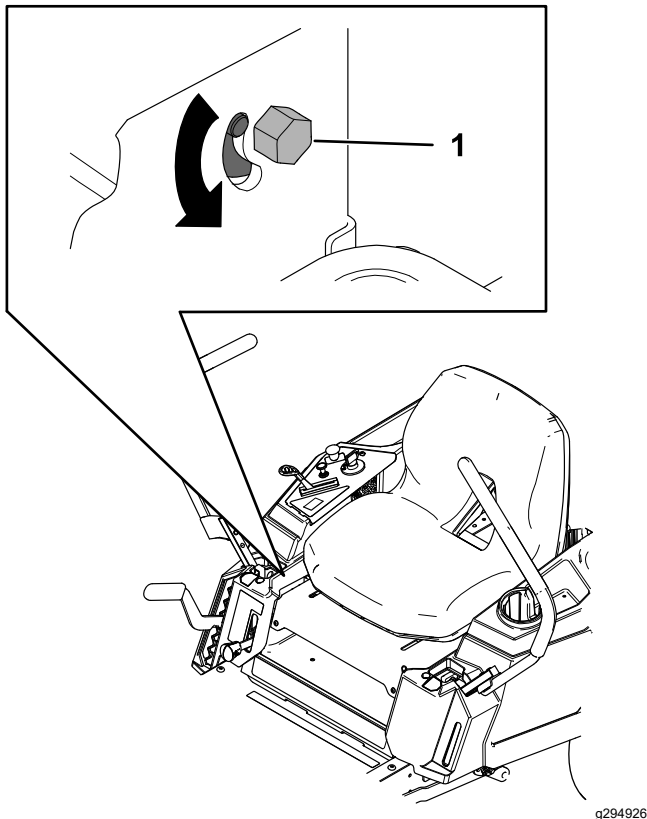

Figure 56
3. Locate the tracking-adjustment bolt near the motion-control lever on the particular side that needs adjusting (Figure 56).